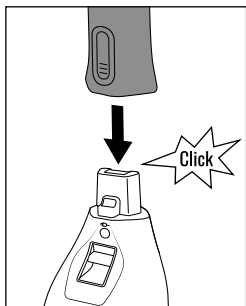

Fig. 1
- ◆ Carefully push the long handle ② onto the motor unit ③ until it clicks into place (see fig. 1).